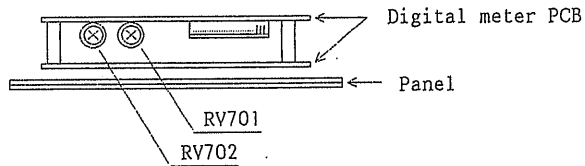

Figure 4-1. Locations of Calibration Potentiometers
- (1) Set the METER EXT/INT switch to EXT (to the pushed-in state). Apply an external calibration voltage of 190.0 mV DC (accuracy 0.05% or better) to the EXT V METER terminals (between HI and LOW terminals). Adjust potentiometer RV701 (see Figure 4-1) so that the digital meter indicates 190.0 \pm 1 digits, at ambient temperature 23°C \pm 1°C (73°F \pm 1.8°F).
- (2) Change the calibration voltage to 1.9000 V DC (accuracy 0.05% or better). Adjust potentiometer RV702 (see Figure 4-1) so that the digital meter indicates 1.900 \pm 1 digits, at ambient temperature 23°C \pm 1°C (73°F \pm 1.8°F).